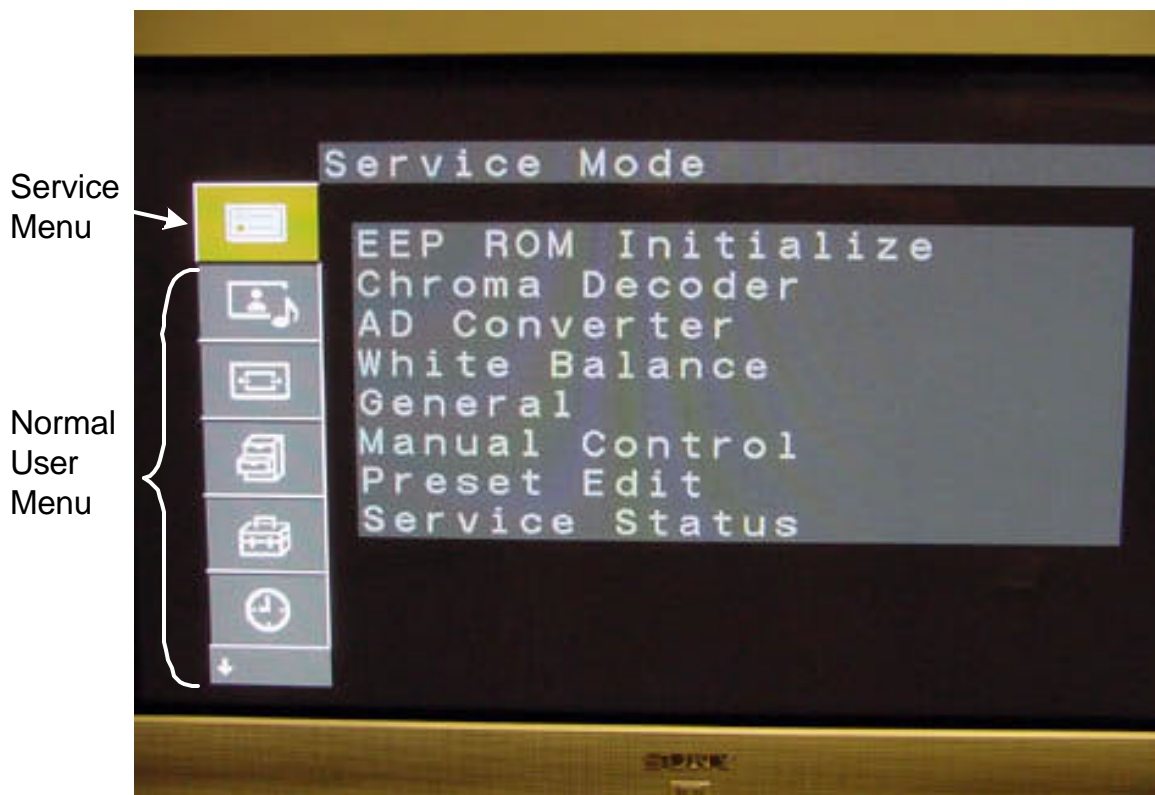

Figure 6-2 - Service Mode Display
3. The following **new** service Mode menu shown in Figure 6-2 will appear above the user menu. Use the remote control joystick to move and change the data as before. Store data as in previous service modes, by pressing "Mute" and then "Enter".